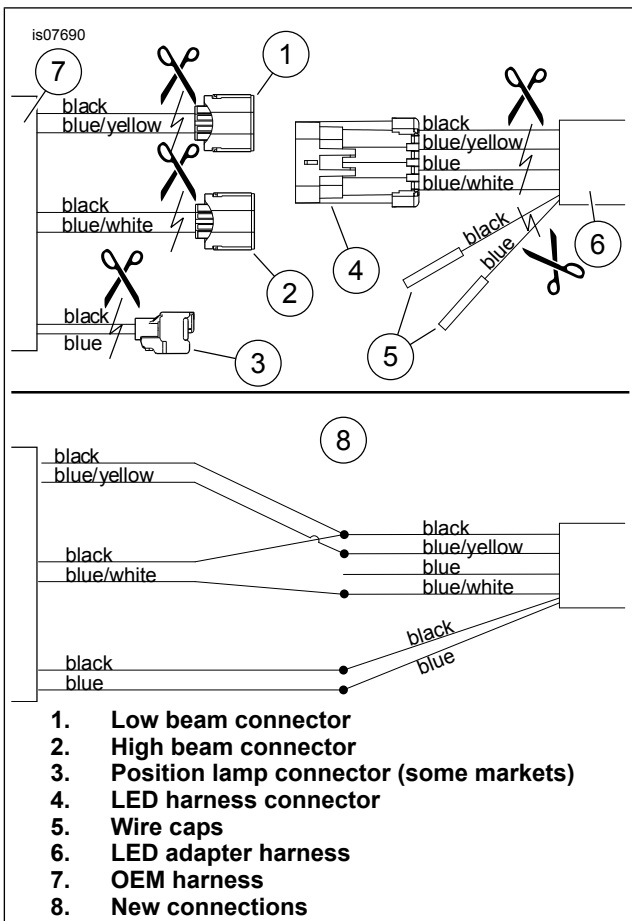

Figure 1. Reconfigure Harness: FLHR/C
3. **HDI models:** Cut off the sealed caps (5). If the original headlamp was not equipped with a position lamp, do not cut off the sealed caps.
4. See Figure 1. Strip and splice the wires following the sealed splice connector procedure in the service manual.
- b. Use the blue splice connectors for the 16 ga wires that were cut from connector (4).